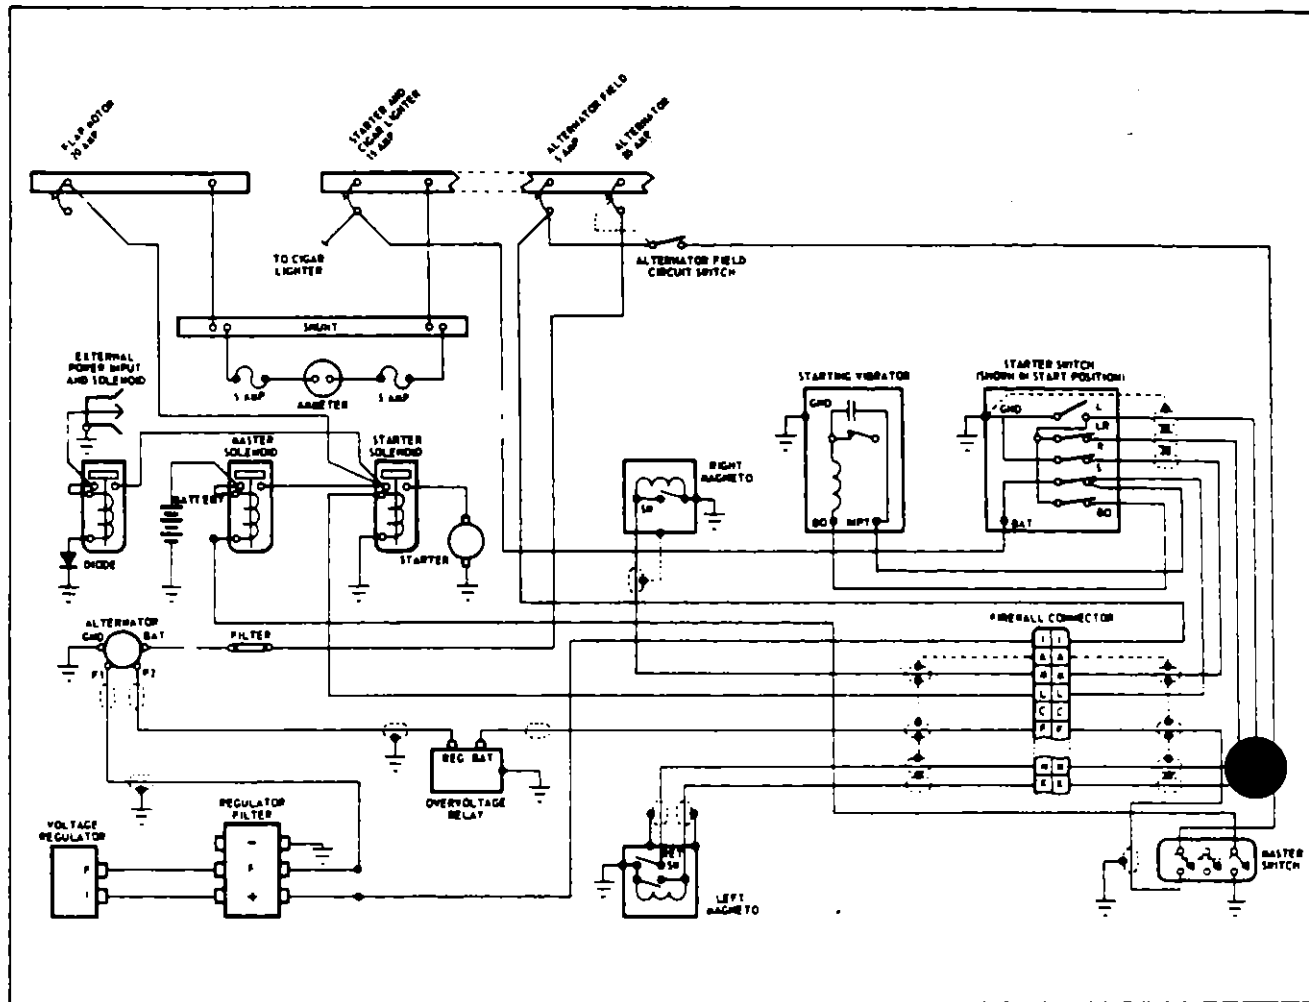

Figure 9-27b. Alternator and Starter Wiring System Schematic (Prestolite)
9-61c. Checking Alternator System. The ammeter is equipped to check the electrical output-input of the battery. Should the alternator show no output on the ammeter, check the alternator output and field thermo circuit protectors, and ammeter line fuses. If a further check of the ammeter shows no output from the alternator, check the alternator system. (Refer to Figure 9-27b.)
- f. To check the alternator output circuit, connect a voltmeter or 12 volt test light to the battery lead and to ground. If a reading of approximately 12 volts registers on the voltmeter or the test light lights, the battery circuit is operational. Should there be no indication of voltage, trace back through the output circuit until voltage is indicated. (Refer to Figure 9-27b) A component that allows no voltage to pass through it should be replaced.
Always refer to the wiring diagram, Figure 9-27b, when installing the alternator or testing the alternator.